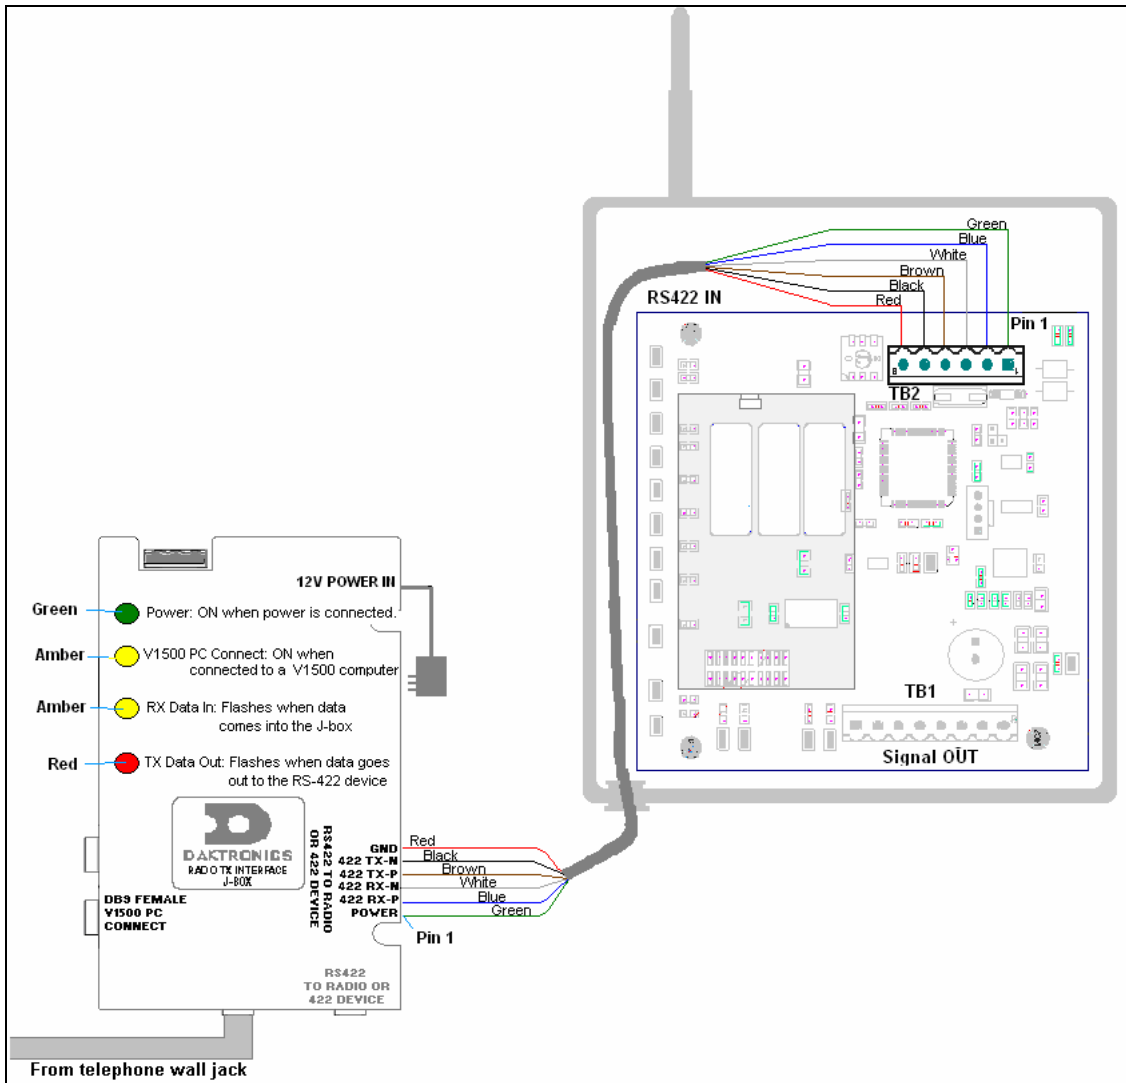

Figure 11: Modem Wiring, J-box to Server Radio
- Refer to **Figure 11** and the table for the connections from the J-box/modem to the server radio.